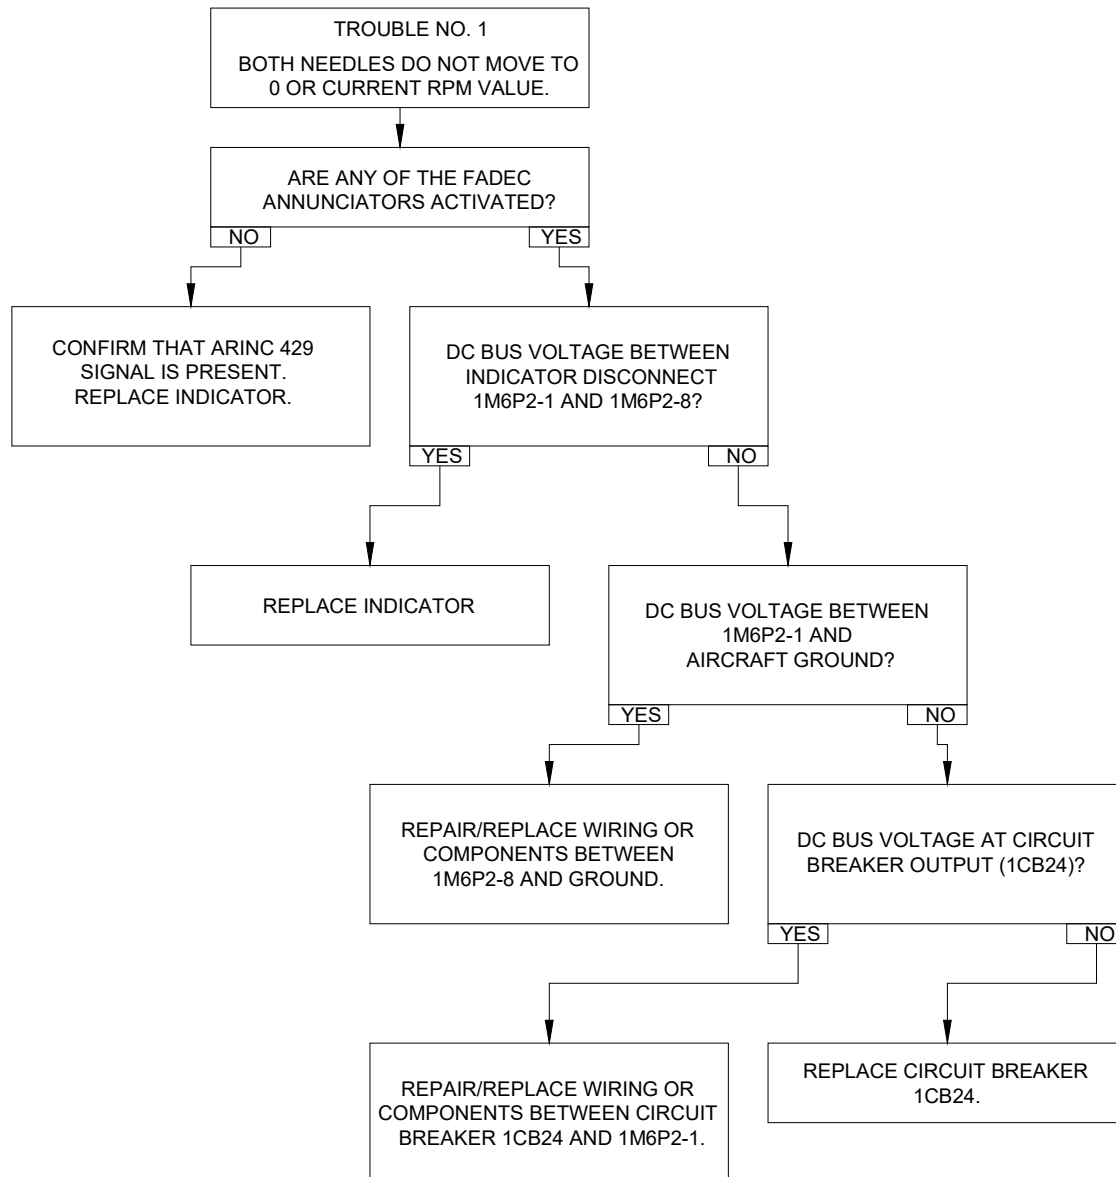

Figure 95-20: Dual Tachometer Indication System - Trouble No. 1
- If both needles do not move to 0 or to the current value, refer to Trouble No. 1 (Figure 95-20).